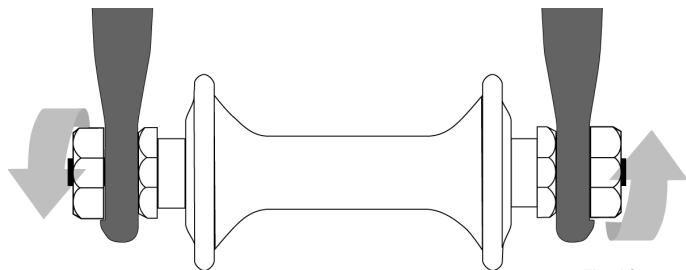

Fig. 10
3. Hex nuts or hex key bolts which are threaded on to or into the hub axle (bolt-on wheel), [Fig. 10].